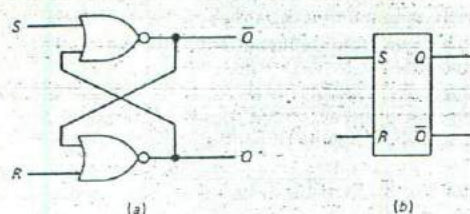

Fig. 11-18 High activated R - S latch. (a) R - S latch from NOR gate. (b) Symbol. (c) Timing diagram.
Figure 11-18 shows an R-S latch configured from two NOR gates. Note that the Q output is taken from the bottom gate and the $\text{NOT } Q$ output is taken from the top gate. The symbol, shown in Fig. 11-18(b), locates the Q output on top because this is its stan-
- Refer to Fig. 11-18. What output state results if both the set and reset inputs are high? What is the condition called if both inputs go low at the same time?